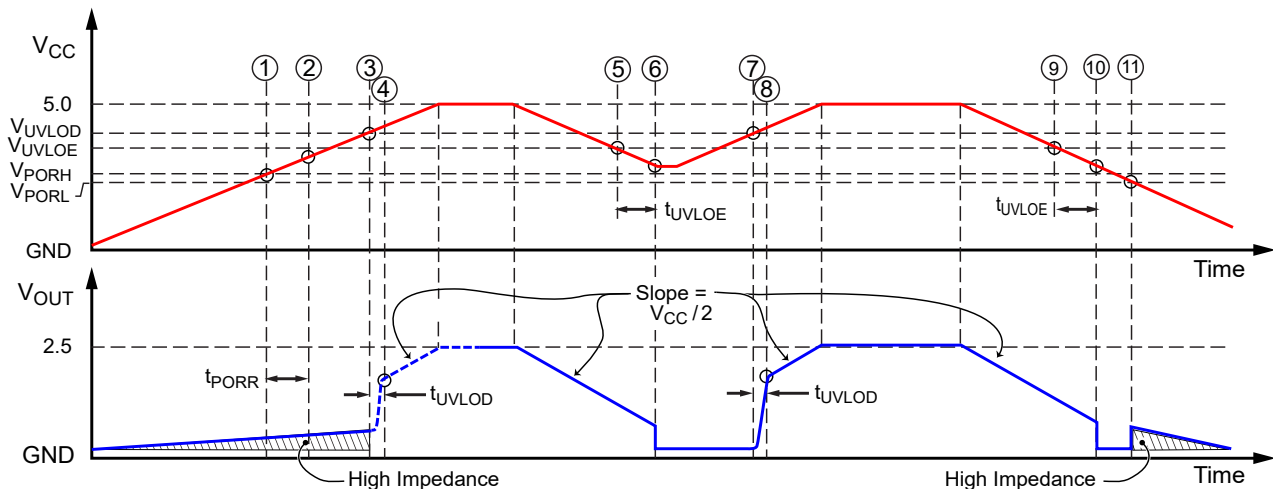
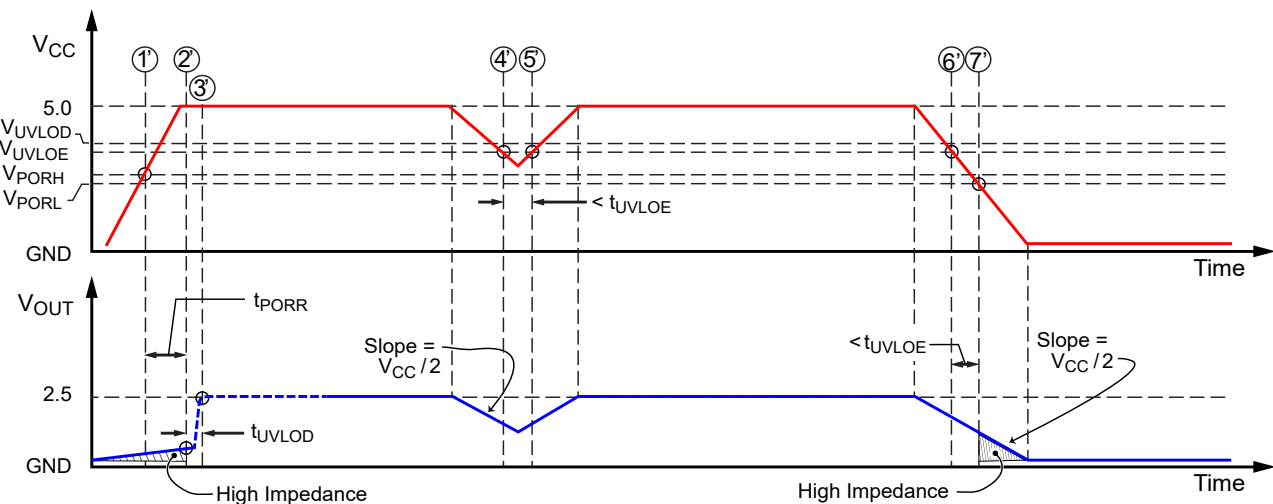

Figure 6: POR and UVLO Operation – Slow Rise Time Case
Figure 7: POR and UVLO Operation – Fast Rise Time Case
- **Power-Up.** At power-up, as V_{CC} ramps up, the output is in a high-impedance state. When V_{CC} crosses V_{PORH} (location [1] in Figure 6 and [1'] in Figure 7), the POR Release counter starts counting for t_{PORR} . At this point, if V_{CC} exceeds V_{UVLOD} [2'], the output will go to $V_{CC}/2$ after t_{UVLOD} [3'].